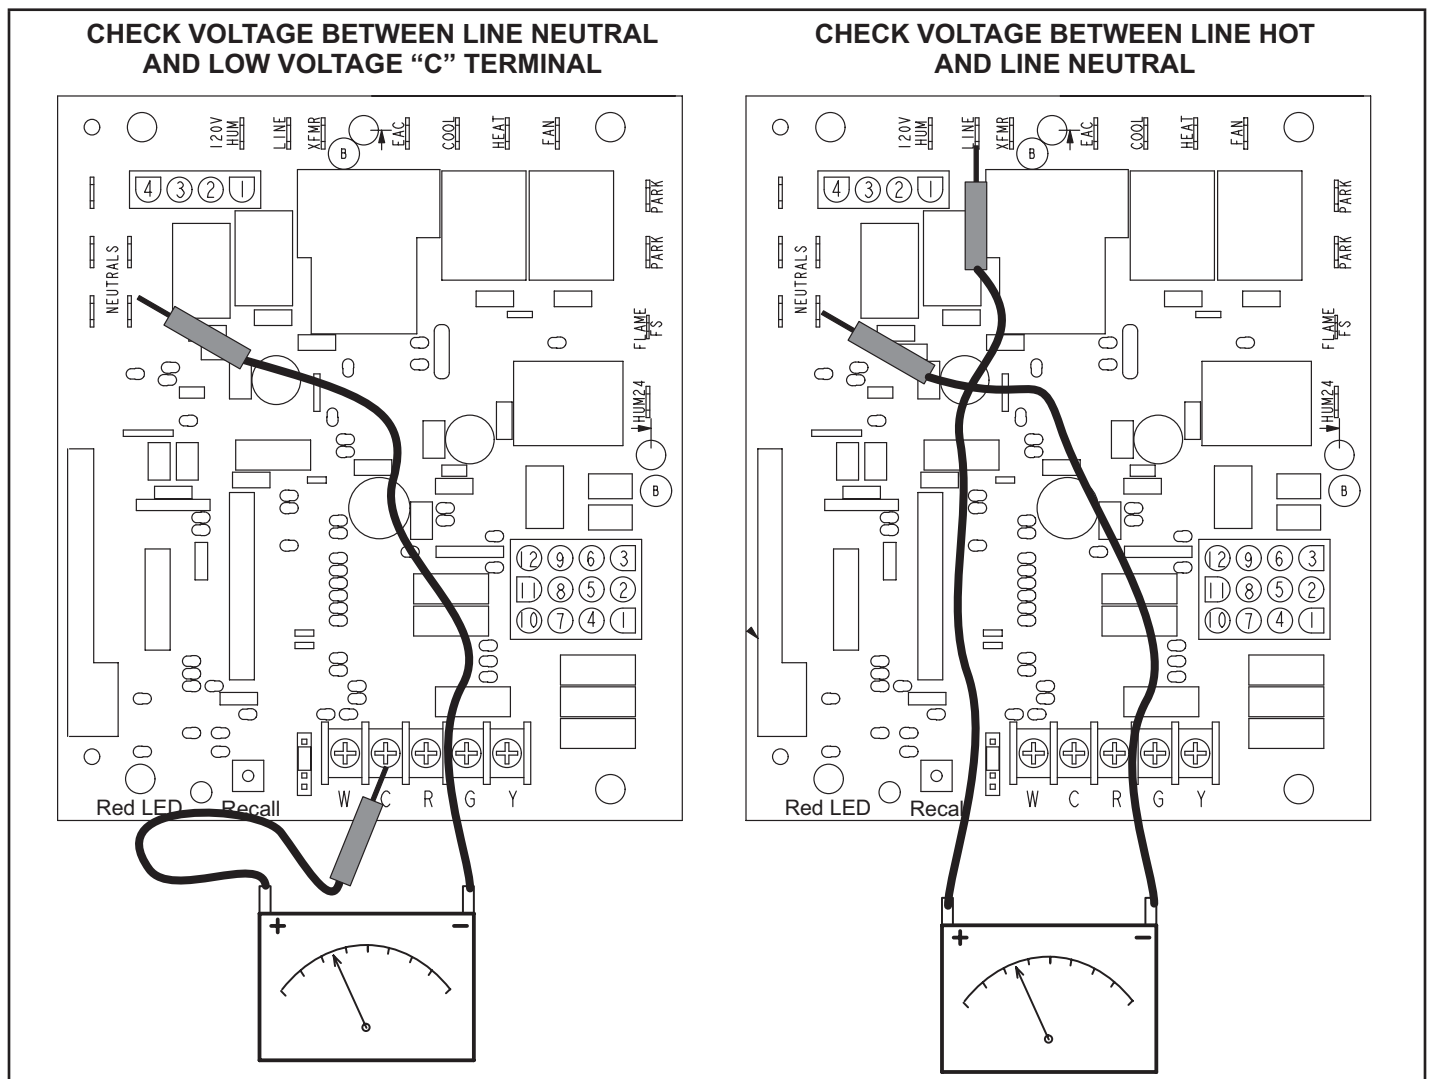

FIGURE 58
- 1 - Measure the AC voltage between Line Neutral (spade terminals) and "C" terminal (low voltage terminal block) on the integrated control. See FIGURE 58. A wide variation in the voltage between Line Neutral and "C" as a function of load indicates a poor or partial ground. Compare the readings to the table below. If the readings exceed the maximum shown in TABLE 21, make repairs before operating the furnace.
- 2 - In addition, measure the AC voltage from Line Hot to Line Neutral (spade terminals) on the integrated control. See FIGURE 58. This voltage should be in the range of 97 to 132 Vac.
Note - FIGURE 58 is a typical ignition control illustration.